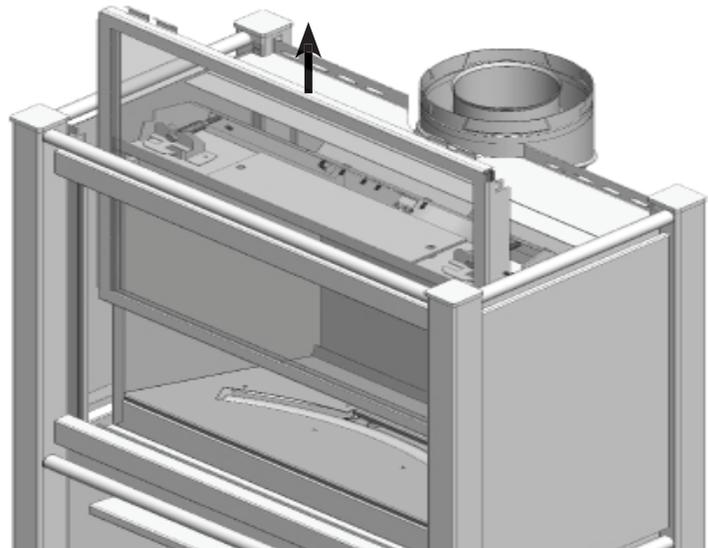

Fig.2
4. Carefully slide the door glass assembly up and out of the unit.(**Fig 2**)